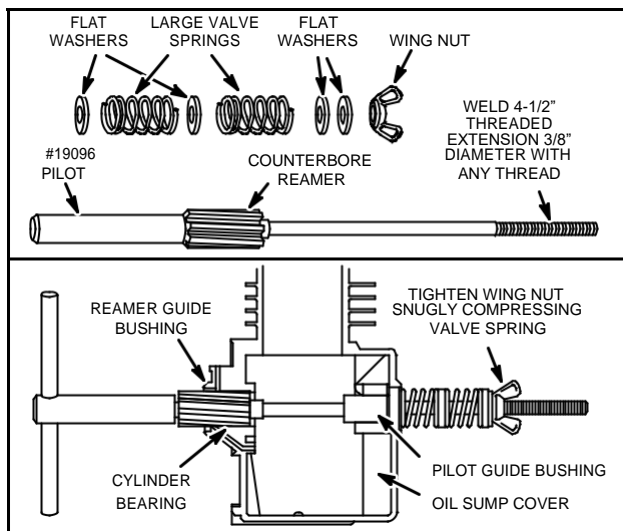

Fig. 920 - MODIFIED PILOT
**NOTE:** When Pilot, Tool #19066, has been modified by adding a 4" long, 1/2" threaded extension, place pilot guide bushing flange on outside of crankcase, Fig. 920.